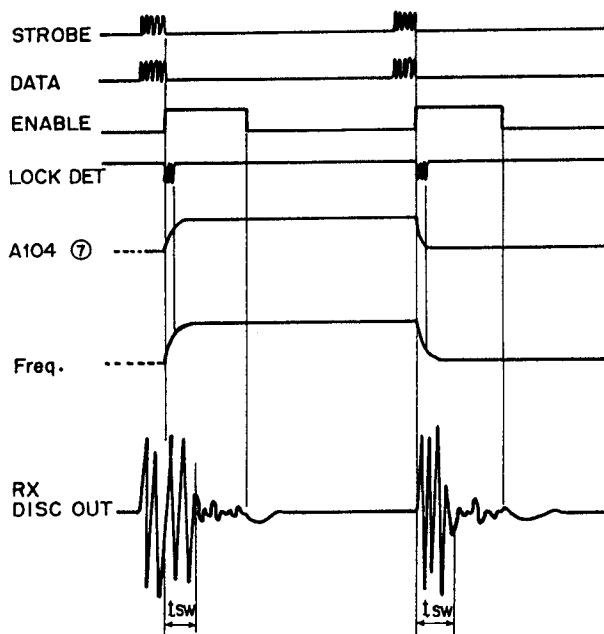

Figure 3 - Logic Format
b. The channel switching sequence and the action of the related functions are shown in Figure 3.